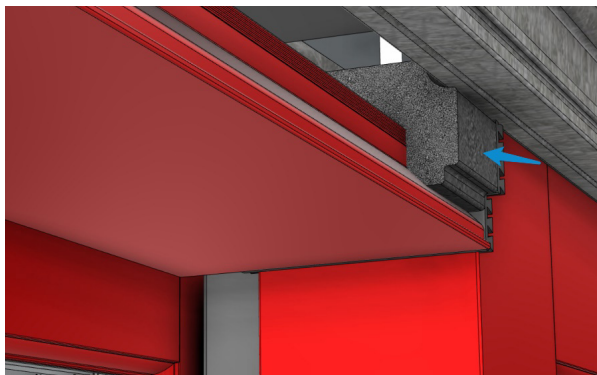

Fig C5
- Compress the foam block from both sides as you press the cover up and into the channel (Fig. C5).